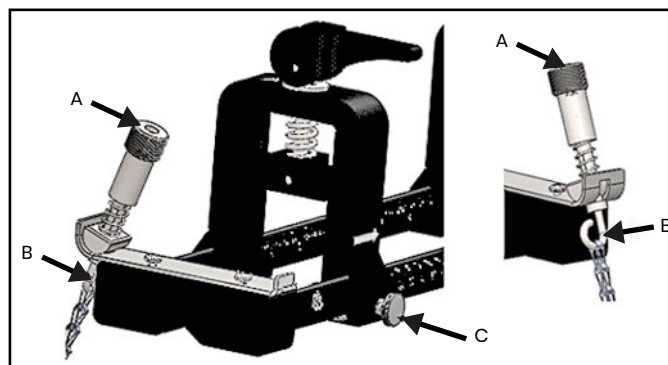

Figure 8: Bracket Preliminary Setup
1. Before mounting the clamp-on fixture, refer to *Figure 8* and proceed as follows:
- Ensure that the chain mechanism screws (A) that are attached to the end piece flats are fully loosened.
- Ensure that the last link on the chain is secured within the chain mechanism screw slot (B) on both sides of the end piece.
- Ensure that the thumb screw (C) is tightened on the movable clamp so that no motion is allowed during the mounting process.